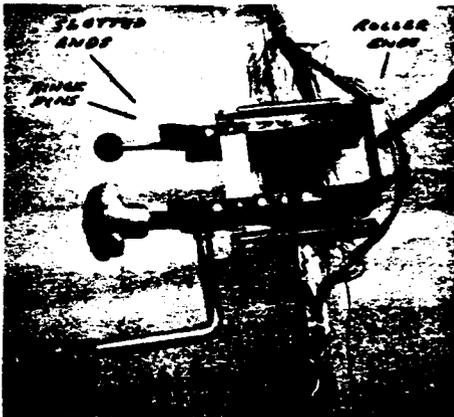

FIG. 26 FORMING HEAD ENGAGEMENT
4.313 Engage the R4861 DET 1 forming head with the R4861 tool by sliding the slotted ends of the forming head onto the R4861 tool hinge pins on the clamp side; bring the forming head cams under the rollers of the R4861 tool. See Fig. 26. Refer to Par. 4.314 before proceeding.